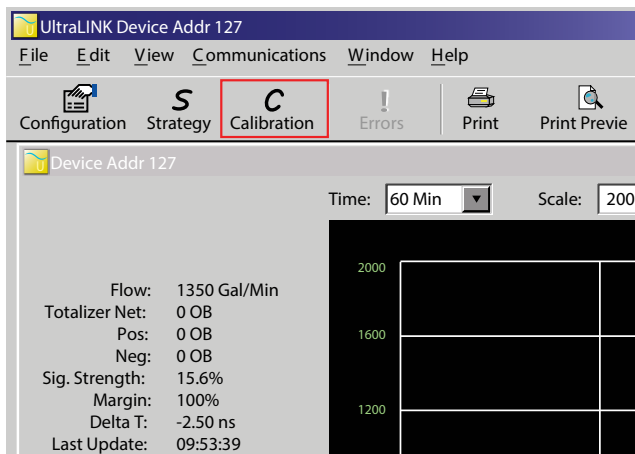

Figure 16: Data display screen
2. From the tool bar, select **Calibration**. See *Figure 16*.